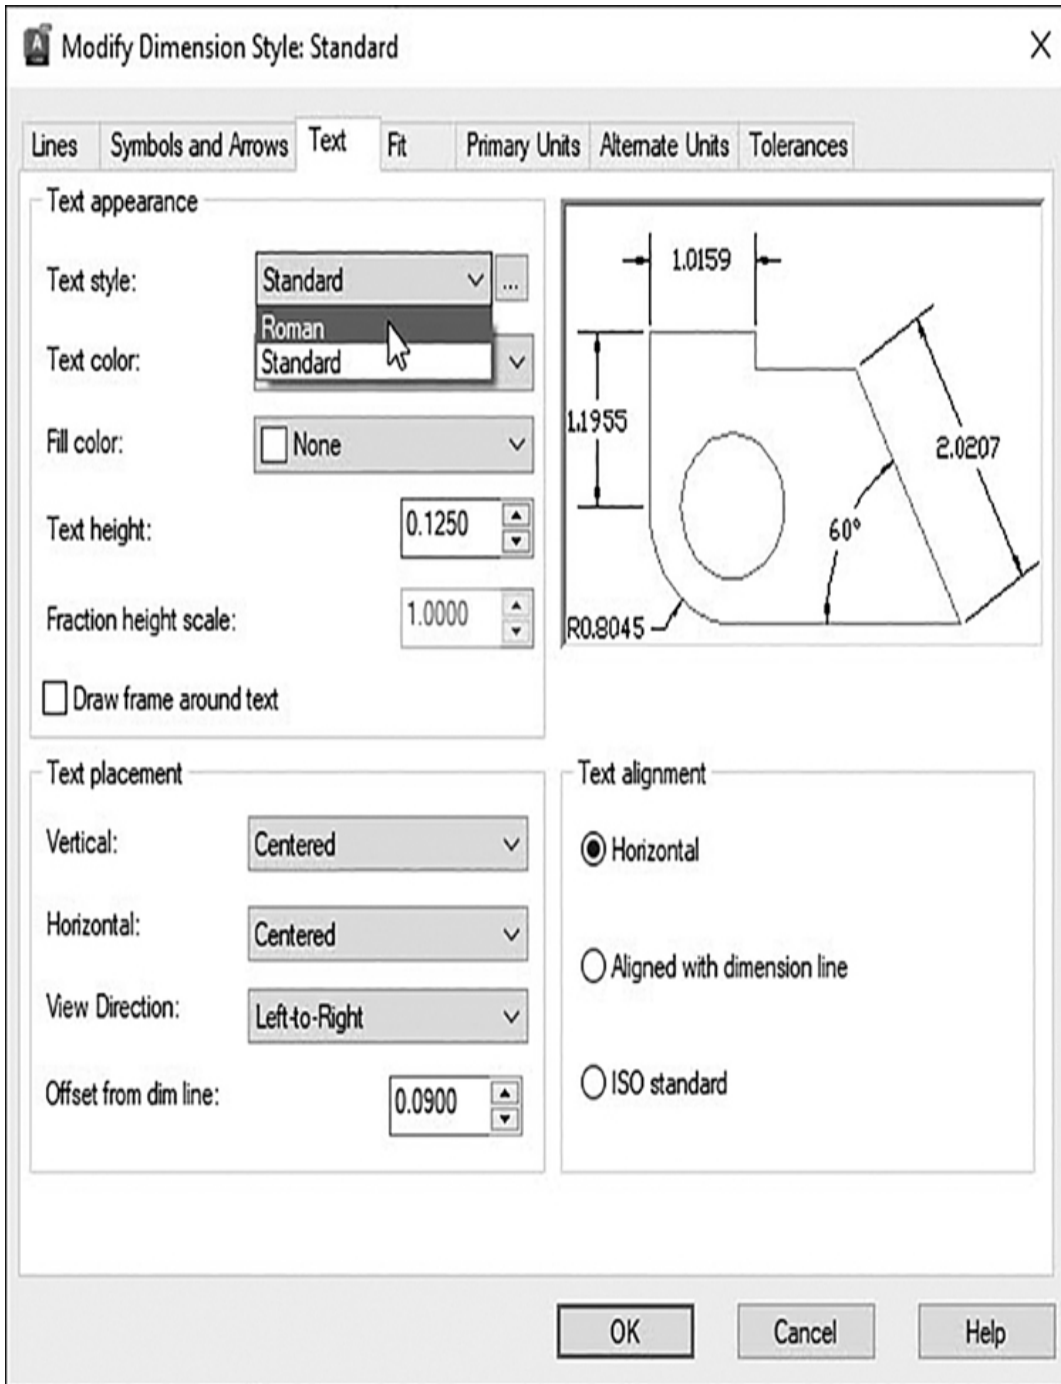

Figure 2-34
- 6 Click on the down arrow to the right of the **Text style:** drop-down list and select the **Roman** text style (see Figure 2-34).